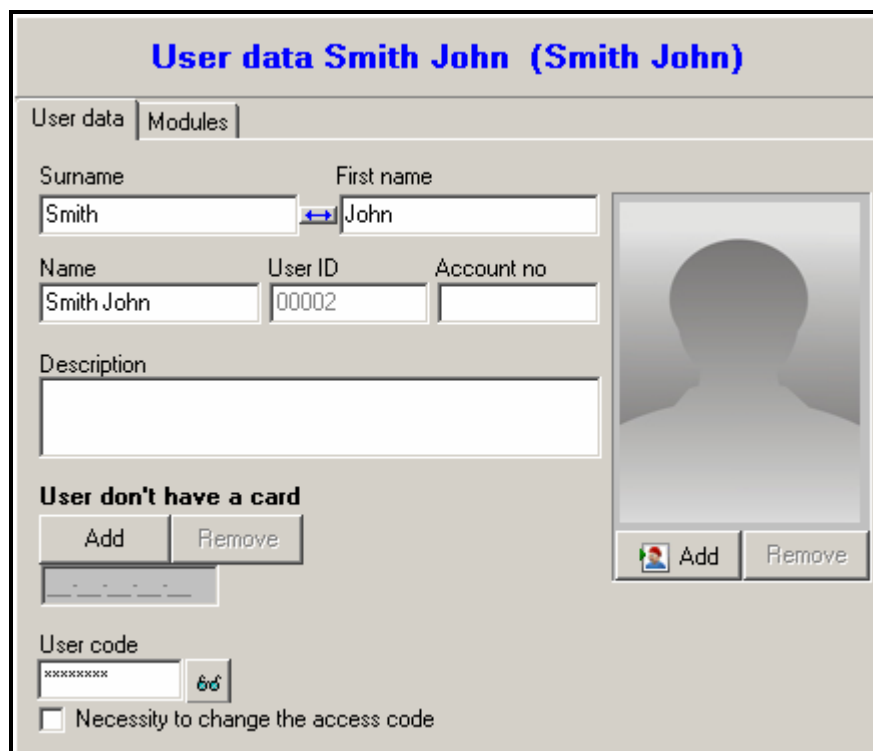

Fig. 23. User data tab in the Users window.
7. Enter the last name, first name and display name of the user (16 characters) in the USER DATA tab. The display name will be created automatically after entering the user's last and first name, however it can be independent of them. The display name only is saved to the module. In the ACCO-SOFT-LT program, this name is displayed in brackets in the USERS window (see Fig. 23).